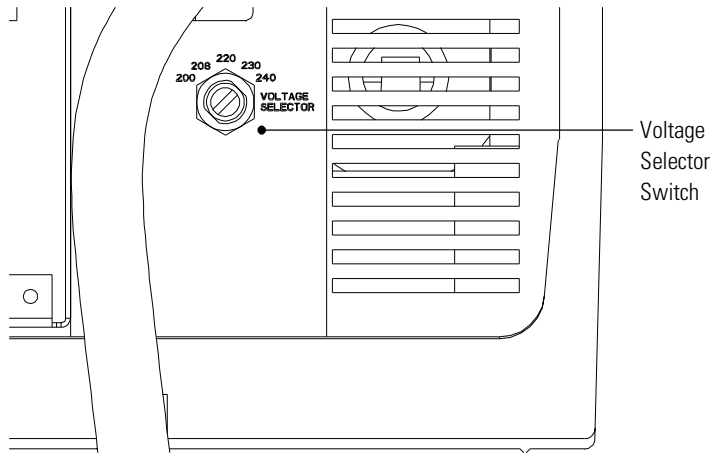

Figure 9. Voltage Selector Switch
4. Select the correct UPS output voltage. Using a screwdriver, turn the switch to the corresponding position of the output voltage required (see Figure 9). The output voltage is factory-set to 220V.